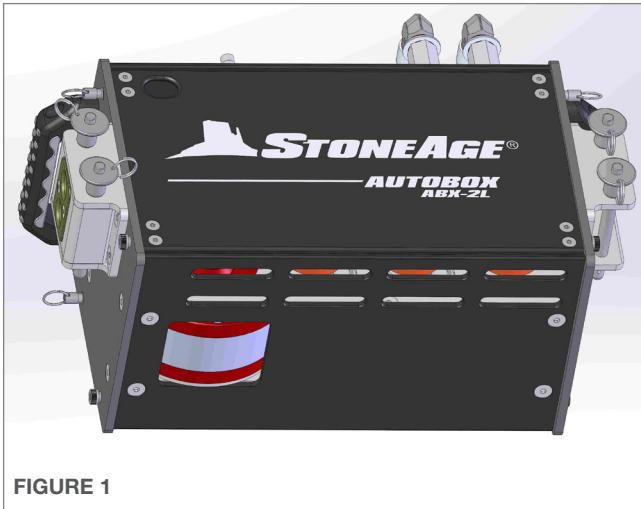
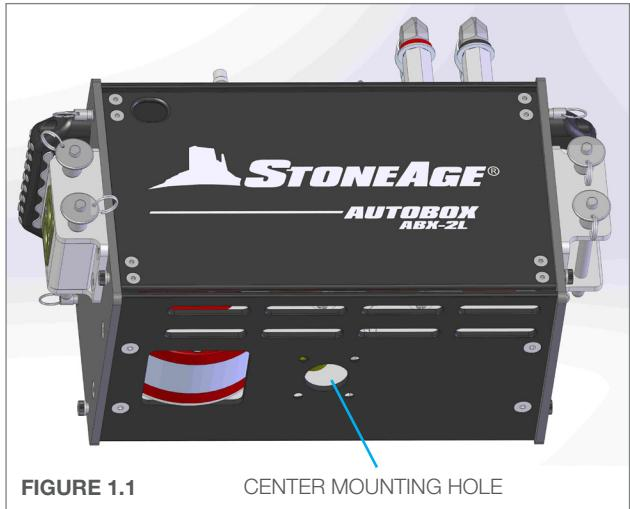

FIGURE 1
FIGURE 1.1 CENTER MOUNTING HOLE
- DETERMINE IF THE BOTTOM PLATE NEEDS TO BE CONVERTED- The latest AUTOBOX® (ABX-2L) models will have the ABX-210 Bottom Plate installed. If the AUTOBOX® (ABX-2L) already has this plate, then skip to Step 3. The older models will not have a center mounting hole, shown in **(Figure 1)**, and will need to be converted to the new plate. The new bottom plate with the center mounting hole is shown in **(Figure 1.1)**.